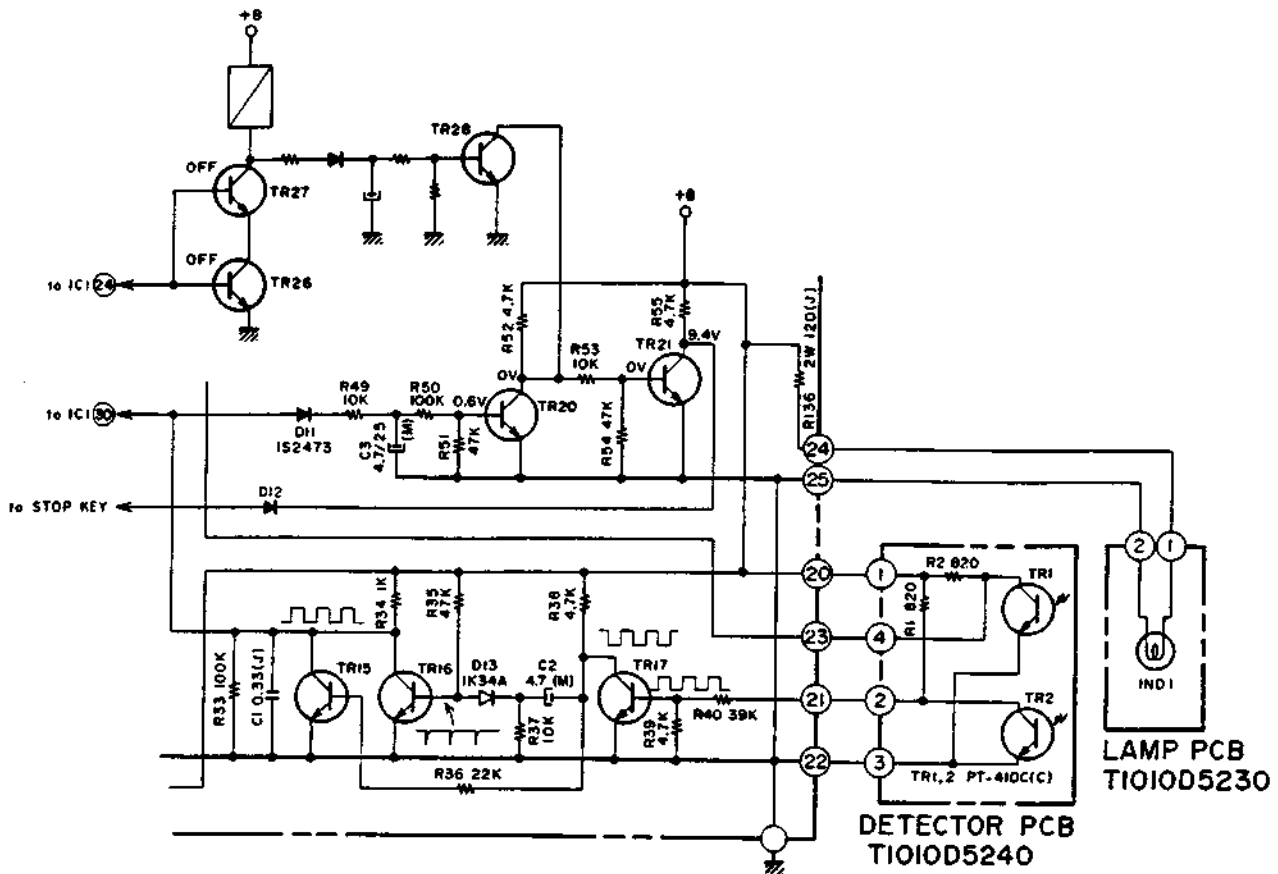

Fig. 23
**2) Auto Stop Circuit (Refer to Figs. 23, 24)**